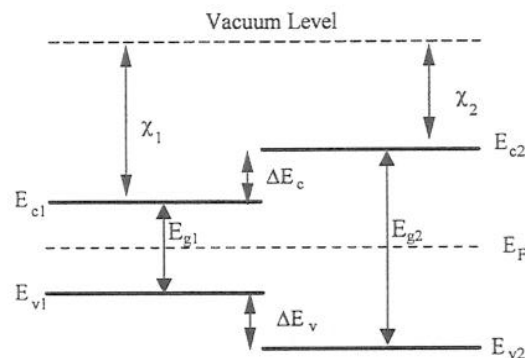

Figure 3.2: Schematic energy band diagram relative to the vacuum level of a small and large bandgap material at contact.
- b. Figure 3.2 gives a sketch of the energy band diagram for two semiconductors that are in contact and without external bias.